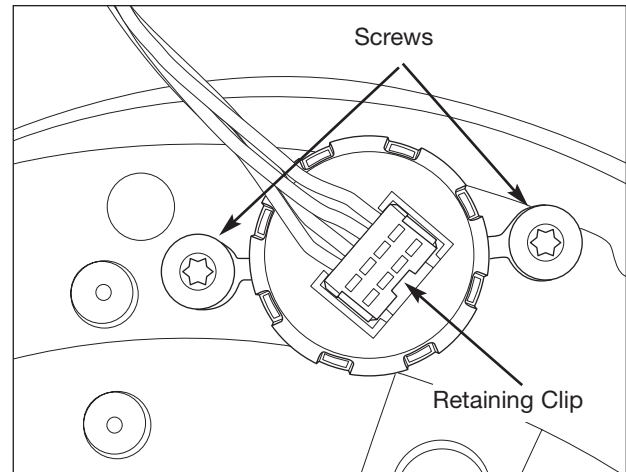

Figure 5-36. Turbidity Sensor/ Thermistor Removal
3. Push back the retaining clip and pull electrical connection from turbidity sensor/ thermistor. (See Figure 5-36)